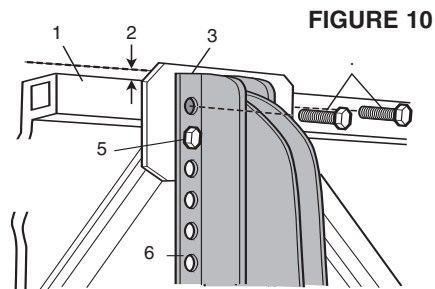
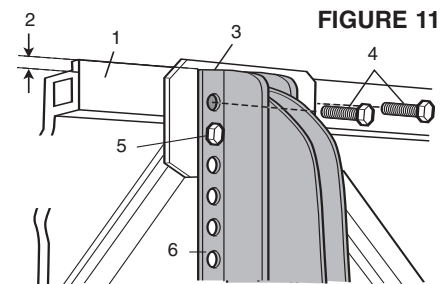

FIGURE 10
FIGURE 11
Note: The door arm should extend about 13mm (1/2") over the top of the door (Figure 10 or Figure 11). *If not, check template and hole positions.*
- Select and mark the (2) template holes which will allow the mounting screws the best possible support in the door, (preferable hole locations into the door's main bracing) as shown in Figures 10/11. **If possible, use additional screws.**